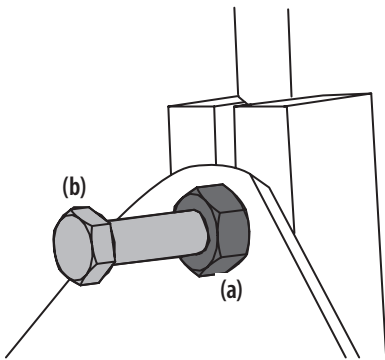

Figure 5-17
- Locate the parking brake adjustment nut near the engine. See Figure 5-17.
- Loosen the lock nut (a) and then tighten the bolt (b) to adjust the parking brake. Turn the bolt until it touches, then back it off a 1/4-turn. See Figure 5-17.